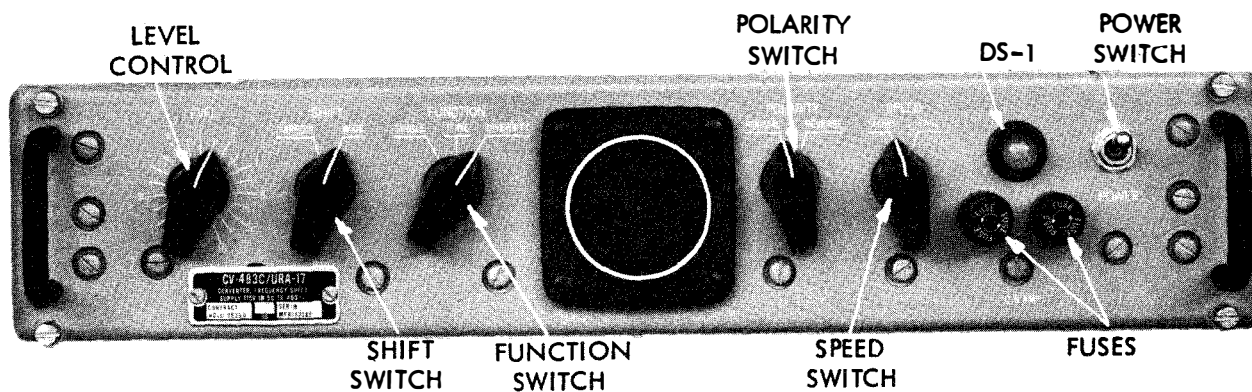

Figure 3-1. Frequency Shift Converter CV-483C/URA-17, Front Panel Controls
b. DESCRIPTION OF CONTROLS. - All controls normally used during operation are located on the front panels of the two identical converters (figure 3-1). Table 3-1 lists all operator's controls by name and function. Other controls are to be adjusted only by a technician.
(1) CONTROLS. - The controls used by the operator are illustrated in figure 3-1 and listed in table 3-1.